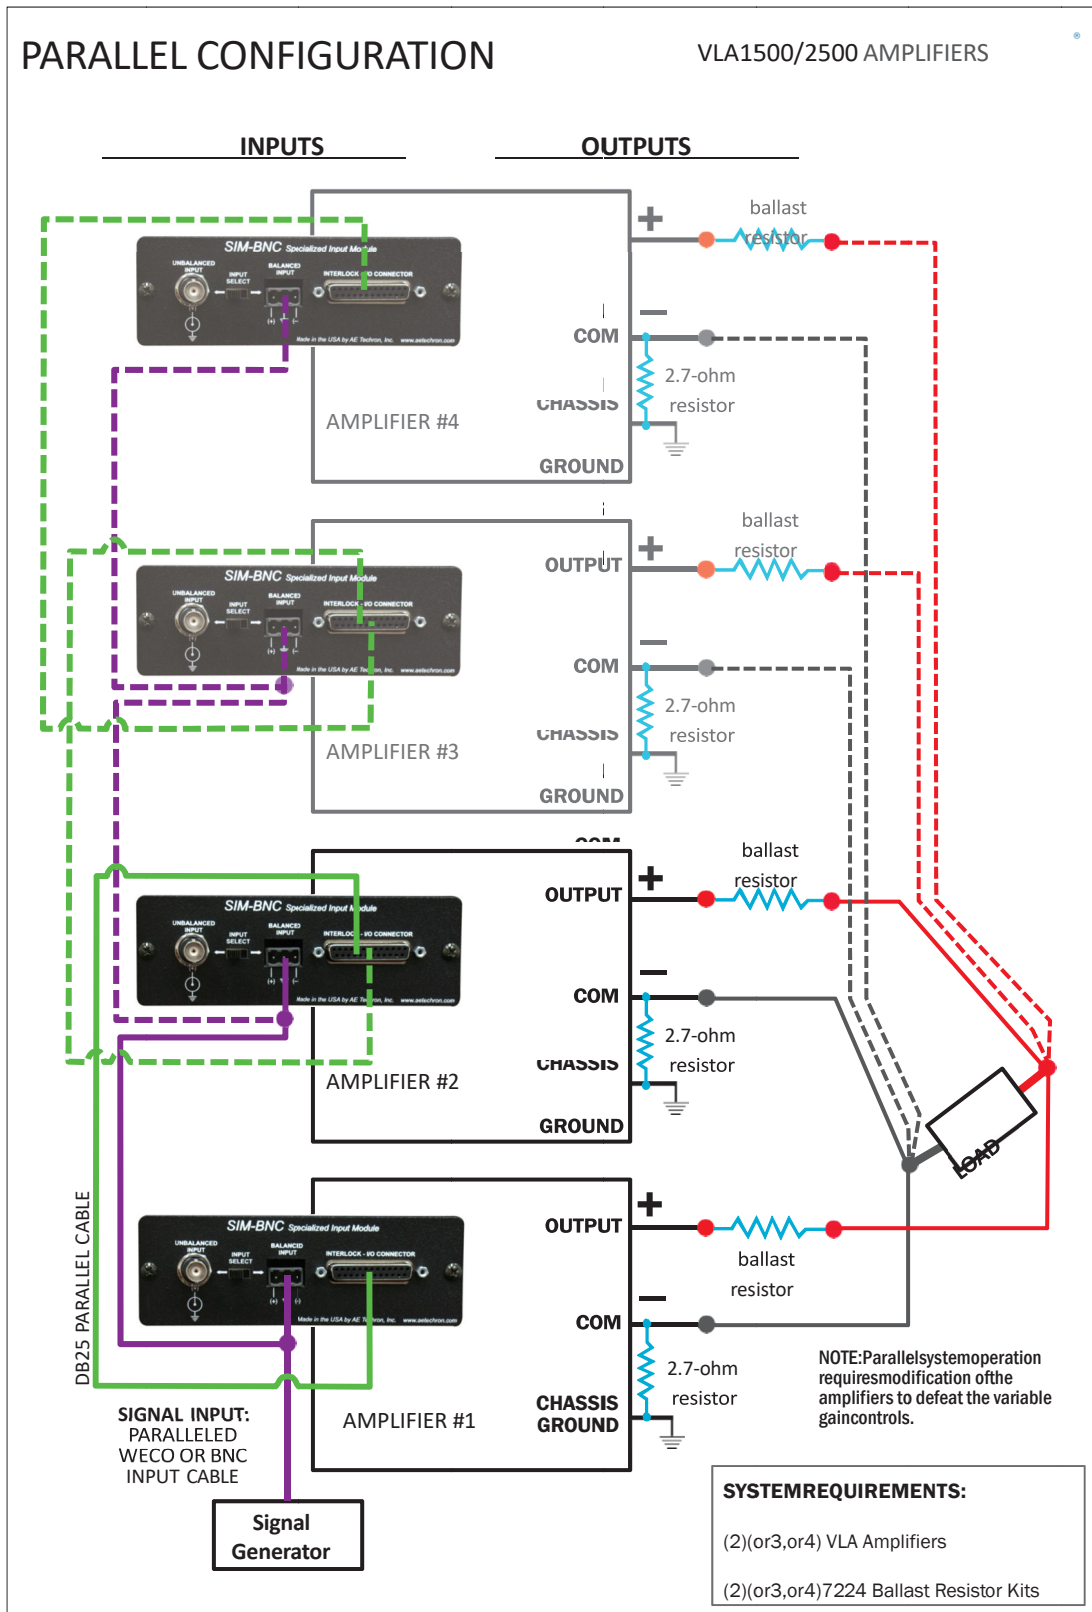

Figure B.2.31 – System Setup for Two-, Three-, or Four-Amplifier Parallel Systems
G. See **Figure B.2.31** for completed wiring for two-, three-, and four-amplifier parallel systems.